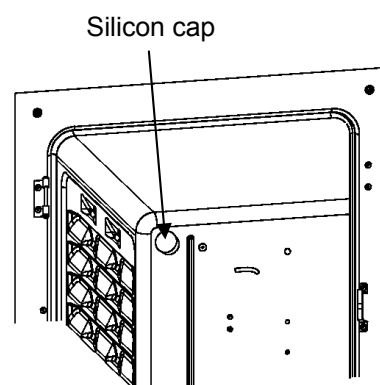
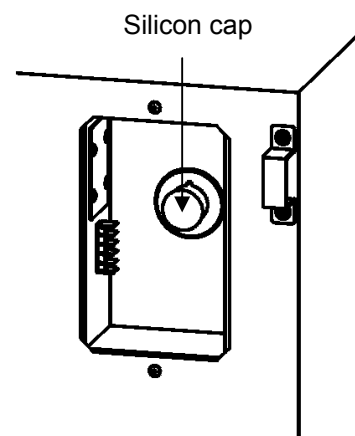

Fig. 7
Fig. 8
8. Remove the silicon caps of each access port from interior (Fig. 7) and exterior (Fig. 8).